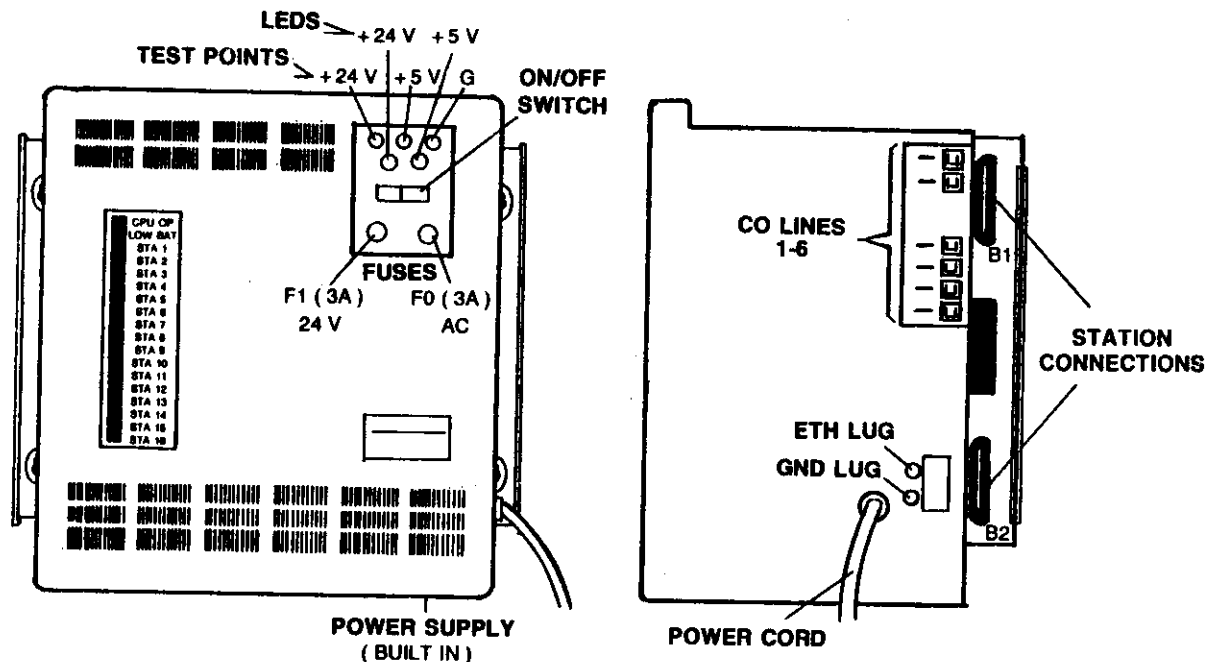

Figure 1-1 KEY SERVICE UNIT / POWER SUPPLY, EK-616
2.02 The EK-616 Key Service Unit (KSU) and Power Supply (Figure 1-1) are contained in one unit designed for wall mounting. The KSU portion of the unit houses replaceable Printed Circuit Boards (PCBs). The power supply portion supplies DC voltage to the system.